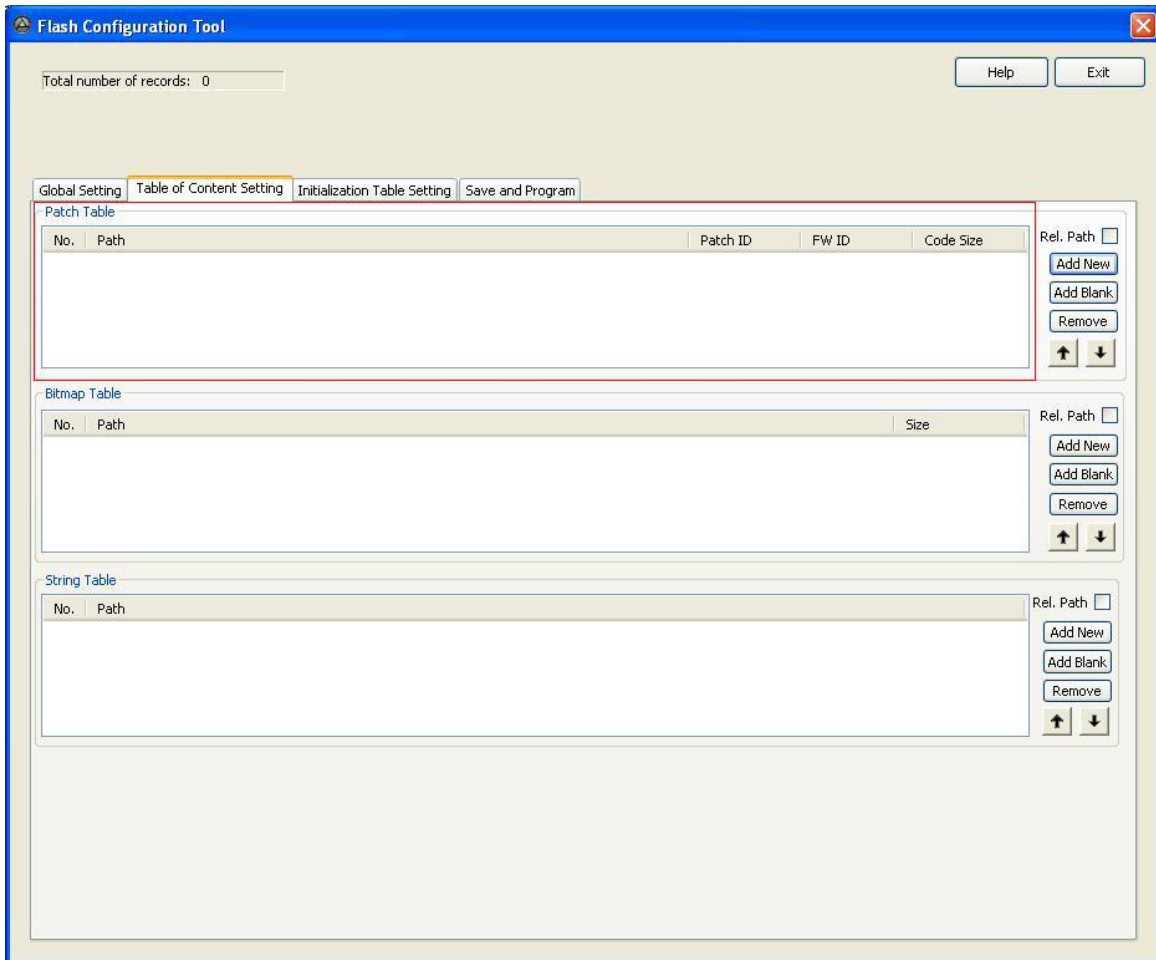
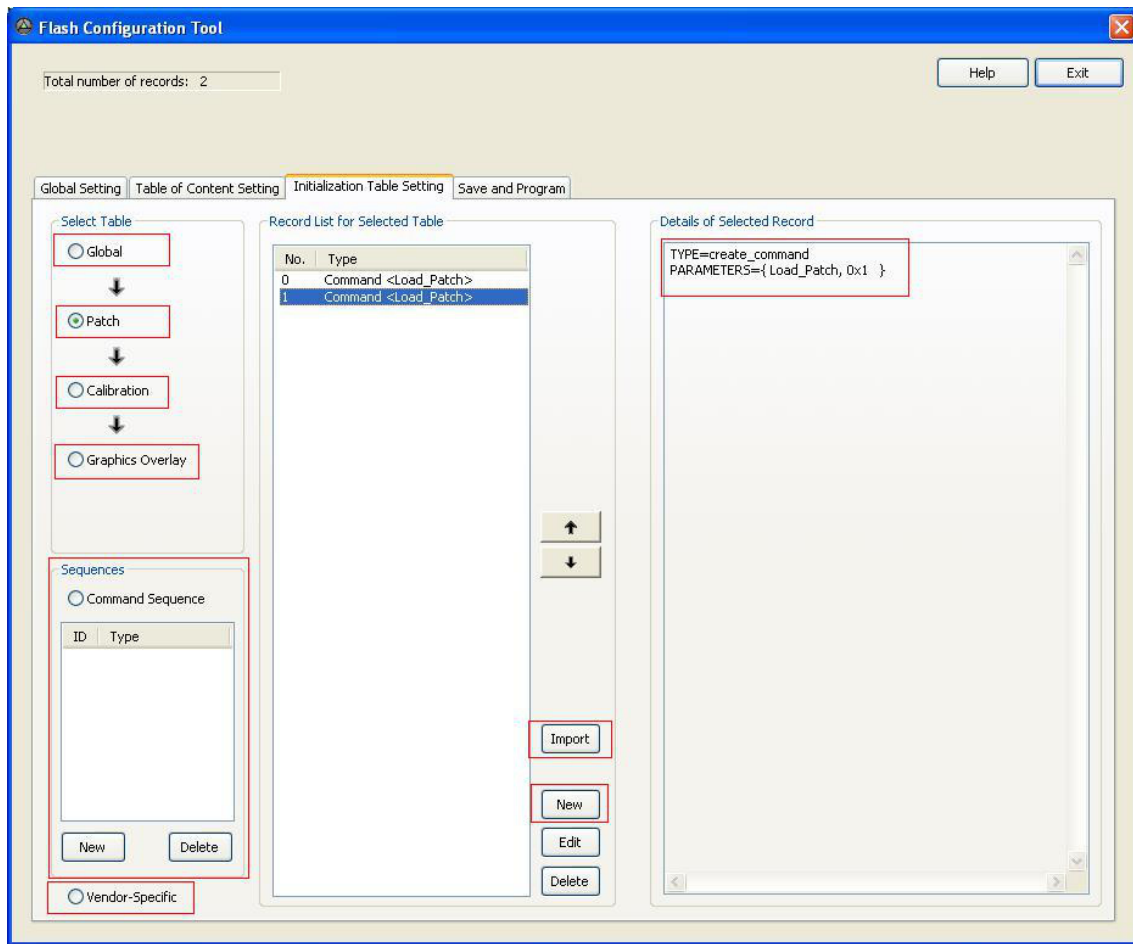
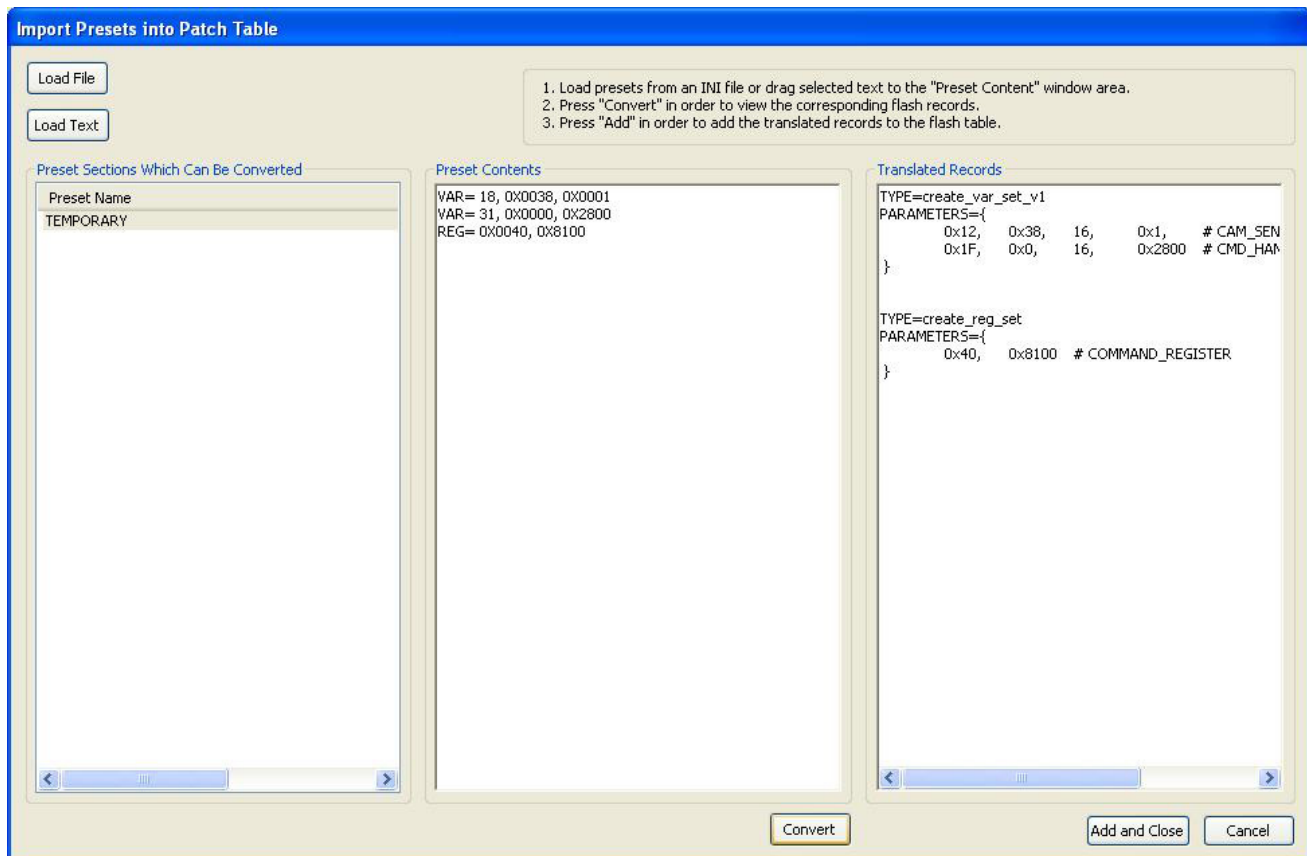

Figure 68. Patch Table
Figure 69. Initialization Table Setting Tab
Figure 72. Convert Commands to Flash Records
In the case when patches are required to apply, they need to be included in Patch Table as shown in Figure 68. However, including a patch in the Patch Table does not mean it is automatically applied. In order to apply a patch, the *Load\_Patch <Patch ID>* command is required to be included in *Initialization Table Setting* → *Patch* section as shown in Figure 69. The patch ID corresponds to the number in Patch Table.
shown in Figure 69. To add one command line at a time, click on New, which is mostly useful for adding an HCI command as shown in Figure 70. There are other record types that can be selected in the drop-down list of *Select Record Type*, such as customer-specific records, and so on.
4. Go to FlashTool, and click on *Import* as shown in Figure 69 to bring up Figure 72 GUI.
6. Go to FlashTool, and click on *Import* as shown in Figure 69 to bring up Figure 72 GUI.
- As shown in Figure 69: “Initialization Table Setting Tab,”, check *Vendor-Specific* on the bottom left, and then click on *New*.
The ASX340AT supports a Command Sequence Processor, which allows host commands and register writes to be executed from a command sequence record stored in NVM. In Figure 69, in the command sequence box, click on the **New** button to create a new command sequence.